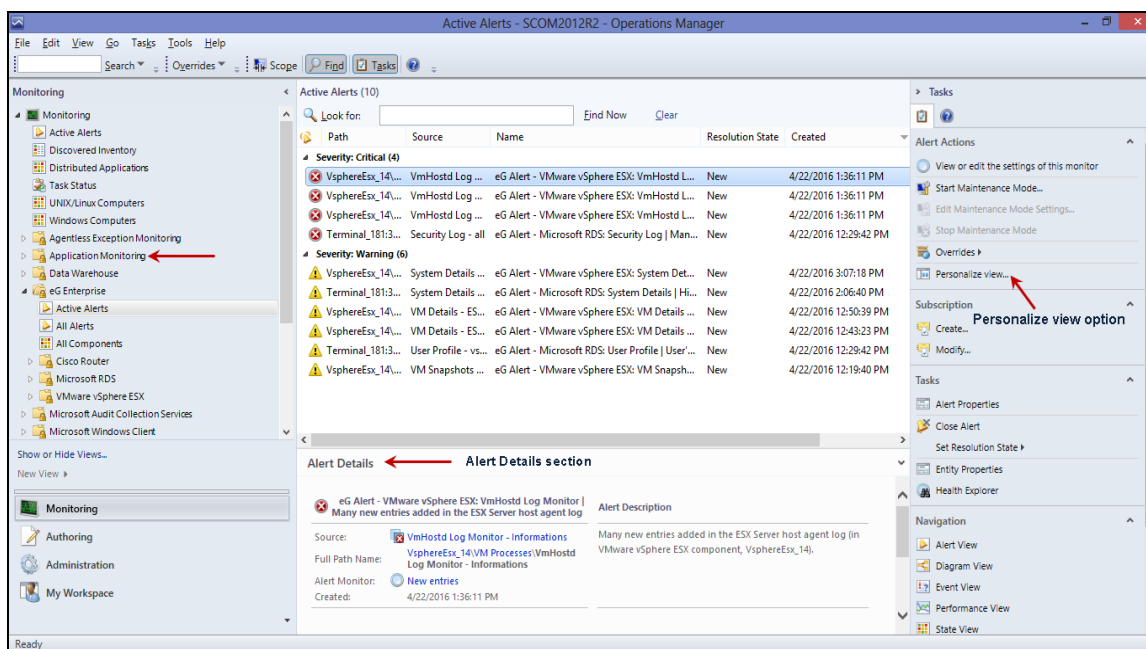
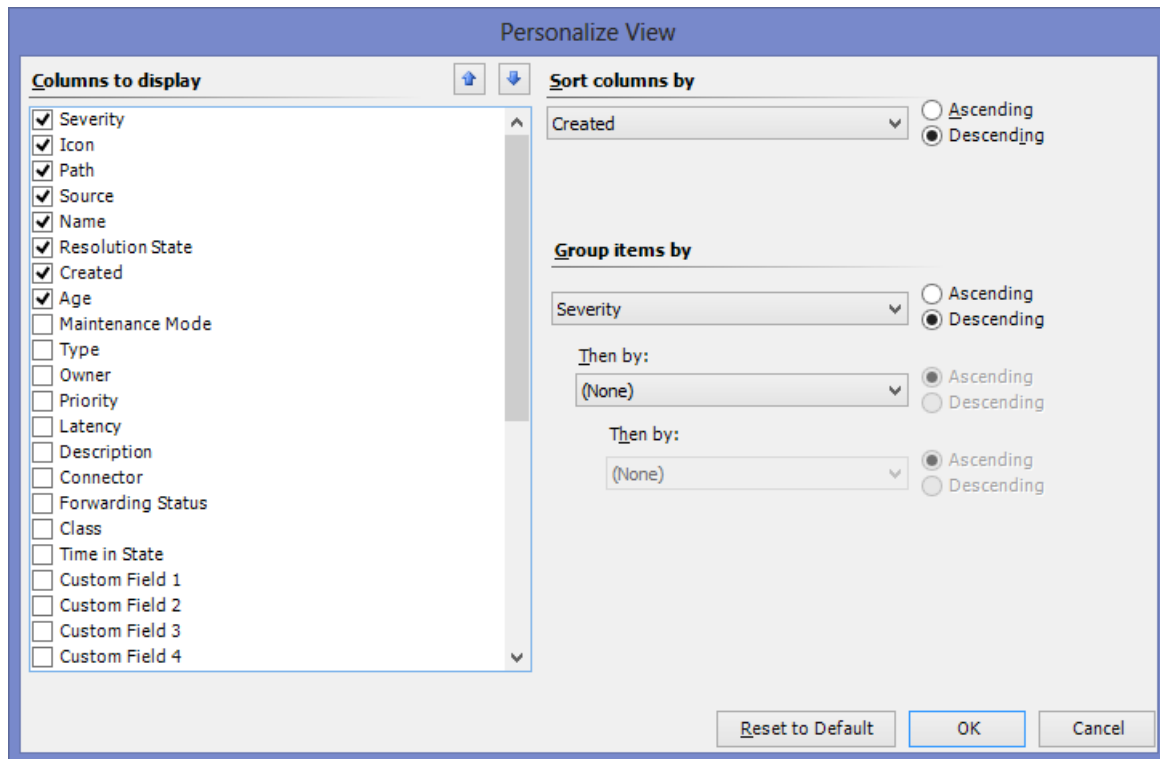
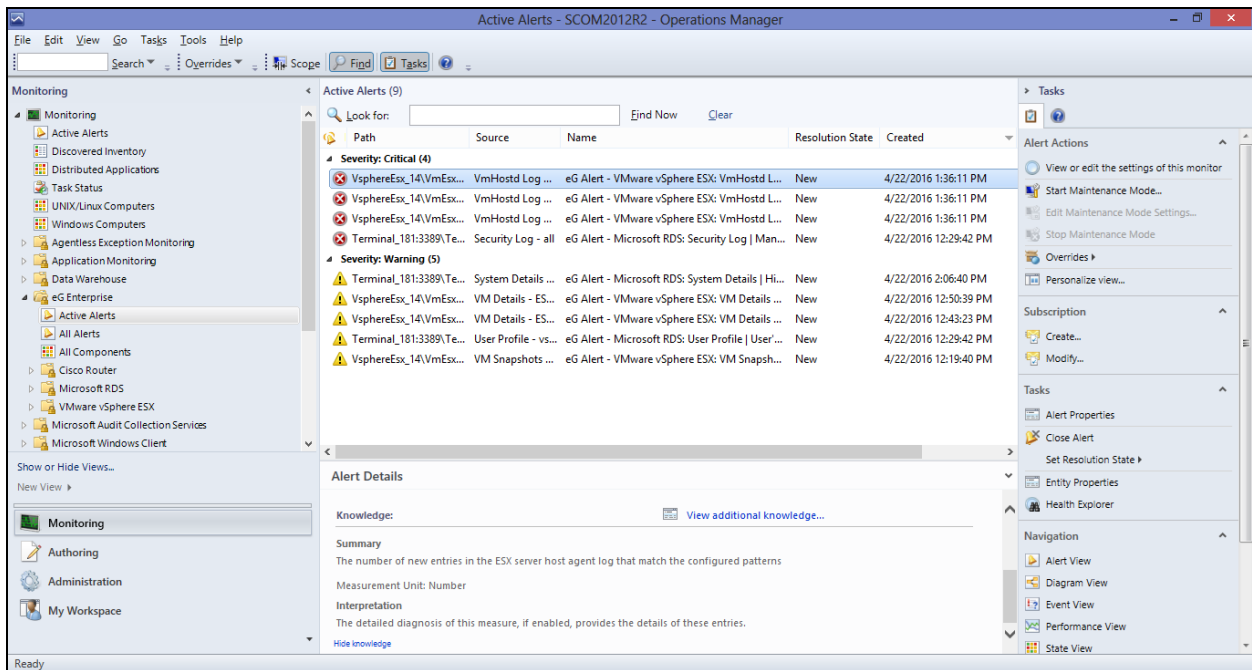

Figure 4.1: The tree-structure displaying a new 'eG Enterprise' node
Figure 4.2: Personalizing the Active Alerts view
Figure 4.3: Scrolling down the Alert Details section to View additional knowledge
This example takes the case of a target environment comprising of an eG manager that is monitoring a VMware vSphere/ESX server, a Cisco router, and a Microsoft Terminal server. Soon after the eG manager is integrated with the SCOM server, login to the SCOM console. Figure 4.1 will then appear. Post the integration, the tree-structure in the left pane of Figure 4.1 will display a new **eG Enterprise** node.
2. You can, if you so need, customize your default **Active Alerts** view to include more columns or exclude one/more default columns. To achieve this, click on the **Personalize view** option in the **Actions** pane to the far right of Figure 4.1. Figure 4.2 will then appear. Select one/more check boxes from the **Columns to display** section to add more information to the **Active Alerts** view, or deselect one/more check boxes to remove the alarm details that pre-exist. Click the **OK** button in Figure 4.2 to save your customizations.
3. Once back in the **Active Alerts** view, you can click on a specific critical alert/warning to view the alert details more clearly in the **Alert Details** section indicated by Figure 4.1. Scrolling down the contents of the **Alert Details** section will reveal a **View additional knowledge** link (see Figure 4.3).